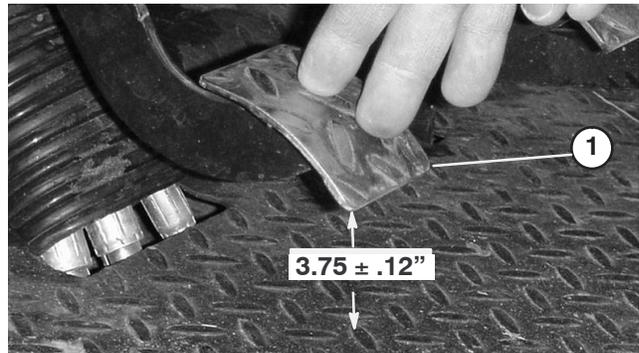

Figure 62
3. Adjust the jam nuts/or ball joint until the back rear edge of the clutch pedal is $3.75'' \pm .12''$ from the top of the floor plate diamond pattern, when an 4 lb. force is applied to the pedal (Fig. 62).